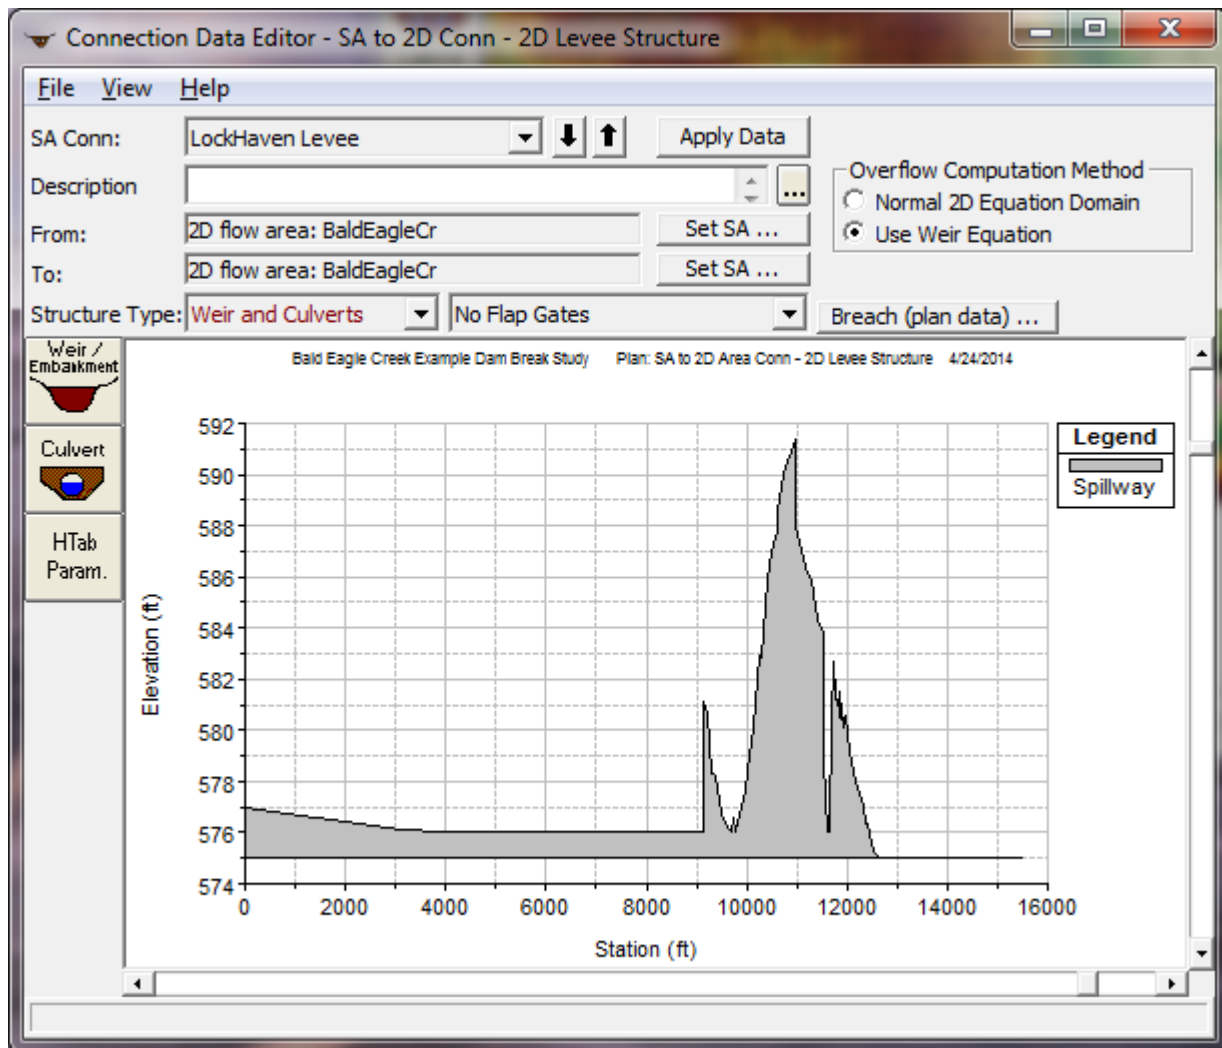

Figure 46. Example of using SA/2D Area Conn to put a hydraulic structure inside a 2D Flow Area.
- Next, select the Storage Area/ 2D Flow Area Hydraulic Connection (**SA/2D Area Conn**) editor on the left panel of the Geometric data editor. This will bring up the editor shown in Figure 46.